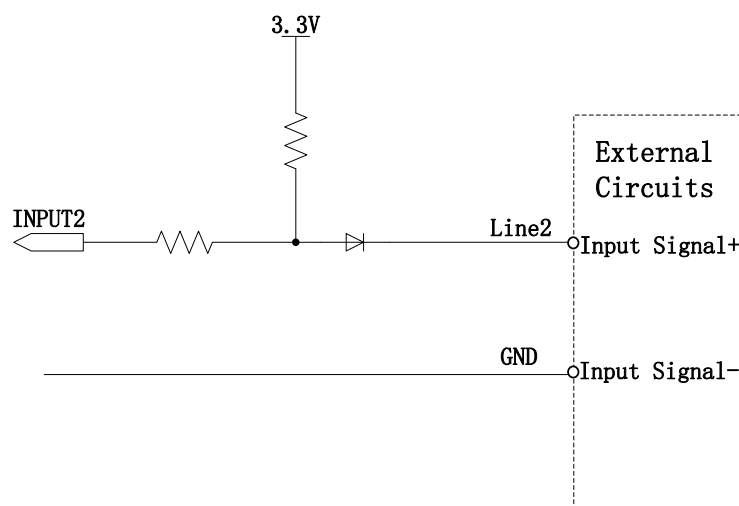

Figure 2-3 Equivalent circuit of camera when Line2 is configured as input
- When Line2/3 is configured as input, the equivalent circuit of camera is shown as Figure 2-3, for Line2 as an example.